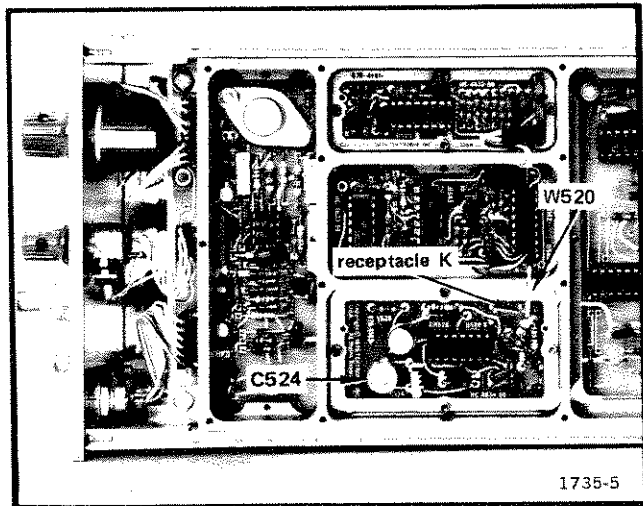

Fig. 4-2. Location of receptacle K, W520, and C524.
a. Connect a frequency counter, through a 1X probe, to receptacle K or W520; and the input to a vertical amplifier, through a 10X probe, to receptacle K or W250 (Fig. 4-2).
b. Adjust the Mode Adjust C524 (Fig. 4-2) so the 52.5 MHz oscillator starts at any position of the TRACKING ADJUST control as the power is turned off and on. (Power should be off long enough for the supply voltage to decay before switching back on.)